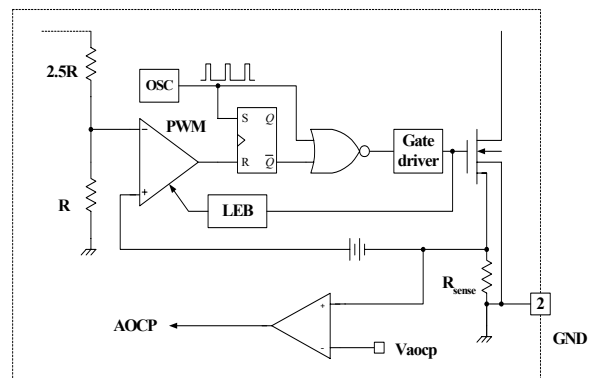

Figure 8. AOCP block
3.2 Abnormal Over Current Protection (AOCP) : Even though the FPS has OLP (Over Load Protection) and current mode PWM feedback, these are not enough to protect the FPS when a secondary side diode short or a transformer pin short occurs. The FPS has an internal AOCP (Abnormal Over Current Protection) circuit as shown in figure 8. When the gate turn-on signal is applied to the power Sense FET, the AOCP block is enabled and monitors the current through the sensing resistor. The voltage across the resistor is then compared with a preset AOCP level. If the sensing resistor voltage is greater than the AOCP level for longer than 300ns, the reset signal is applied to the latch, resulting in the shutdown of SMPS.